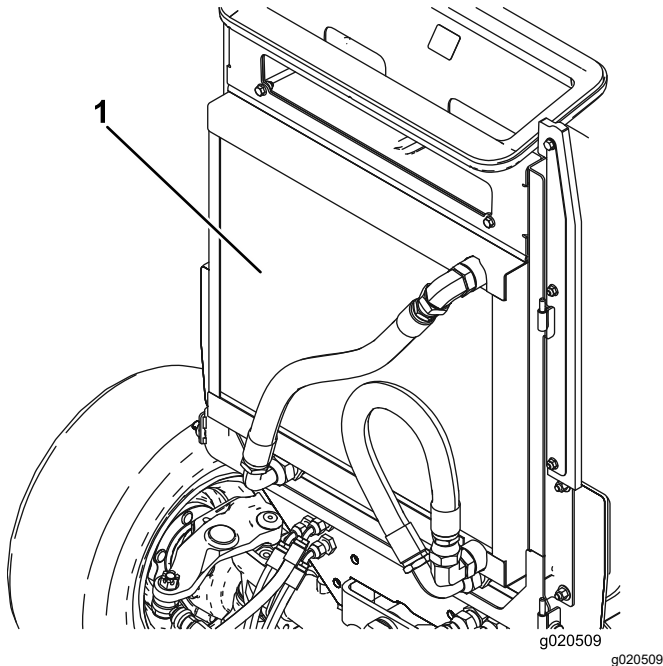

Figure 100
4. Clean both sides of the oil cooler/radiator area (Figure 100) thoroughly with compressed air. Start from the front and blow the debris out toward the back. Then clean from the back side and blow toward the front. Repeat the procedure several times until all chaff and debris is removed.